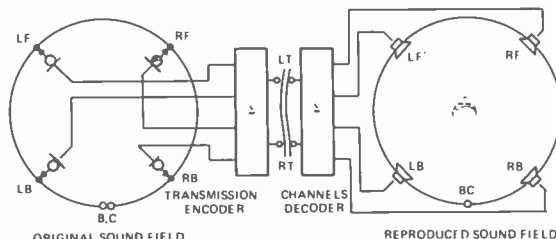

FIG. 2—TRANSMISSION of sound signals by a matrix 4-channel system requires an encoder and decoder.
To elaborate on this point, let's consider a sound field to be a circle and divide it into four equal parts. We now designate the four points dividing the circle (see Fig. 2) as LF (which can be reproduced by a signal of $L = 1, R = 0.414$), RF ($L = 0.414, R = 1$), LB ($L = 1, R = -0.414$) and RB ($L = -0.414, R = 1$). This will certainly mean that a front signal is distributed to LT and RT in phase, and that a rear signal is distributed to LT and RT in reverse-phase. However, it also means that if there is a sound source at the rear center (CB), i.e., if signals of identical levels enter LB and RB simultaneously, $LT = 1 - 0.414 = 0.586$ and $RT = 1 - 0.414 = 0.586$, so that the LT and RT signals find themselves in phase, allowing a sound image to be located at the front center (CF) instead of the rear center (CB).
The reason for this is that this technique takes the fact that stereo reproduction uses in-phase signals to create a line of sound images between the L and R speakers, then simply adds reverse-phase signals to stretch that line outside of the two speakers, letting four speakers connected by this stretched line form a circle. The junction points of this line (points B and C in Fig. 2) do not yet meet each other completely, so that the circle is not yet perfect. This is the reason for the undesirable phenomenon described above. In other words, only the information existing over the three-quarters of the circle, excluding the portion between LB and RB, can be transmitted under this condition.
The phase shift as described above will allow the points B and C of Fig. 2 to join each other completely, providing a CB signal and creating a continuous circle.
More specifically, assuming a playback set-up (right hand side of Fig. 2) where four speakers are placed to form a square, the QS decoder reproduces the four speaker positions by adding or subtracting